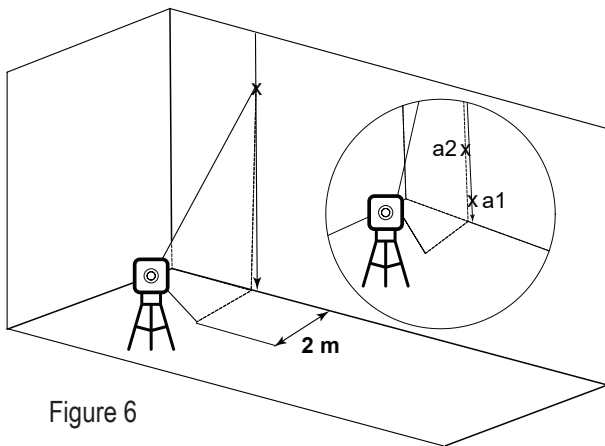

Figure 6
- 6) Mark point **a2** on the wall, in the middle of the vertical beam at the same height as **a1**. (see figure 6).